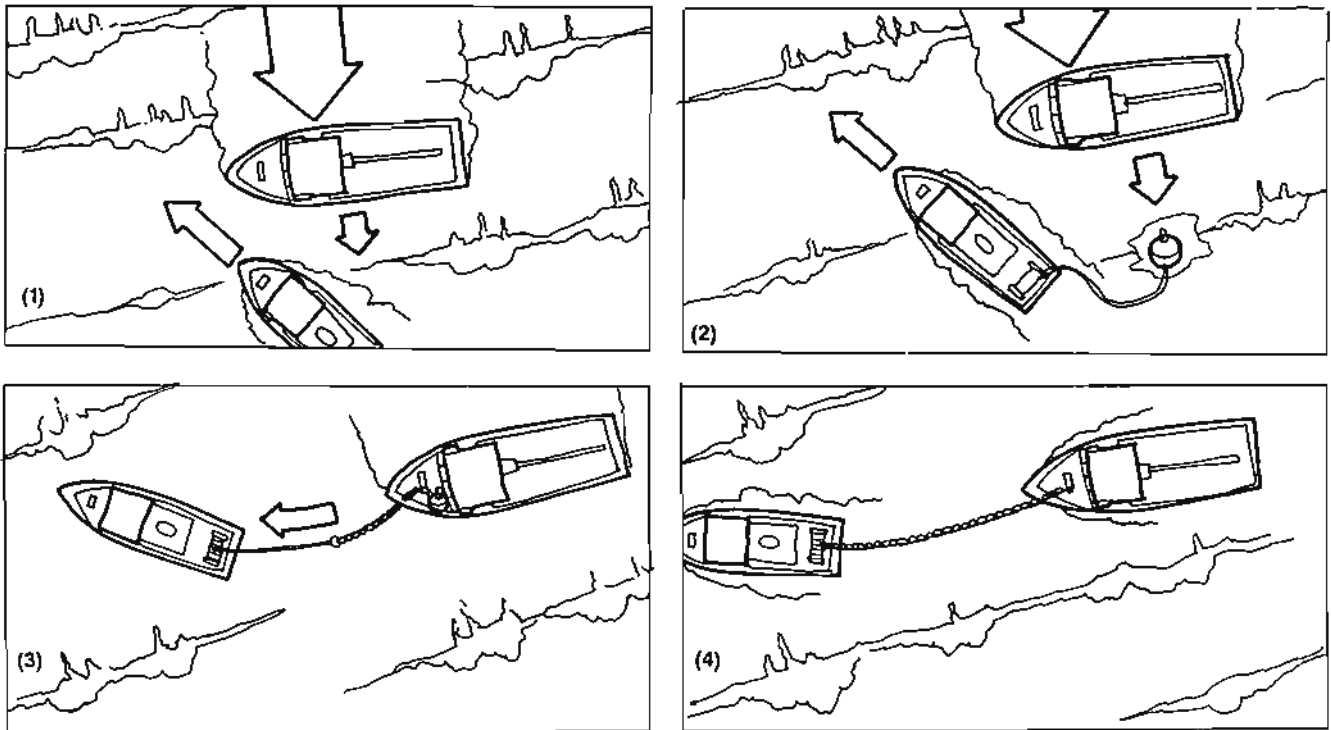

Figure 5-41. Rescue tow using the towed vessel's anchor chain.
A rescue tow can be accomplished by using the towed vessel's anchor chain or cable. In heavy weather, the rescue vessel should approach the bow of the casualty at a large angle across the bow (Figure 5-41, (1)). Drop a line and buoy from the stern of the rescue vessel, and allow the casualty to drift down on it (Figure 5-41, (2)). This line is used as a messenger to pass the anchor chain or cable to the rescue vessel.